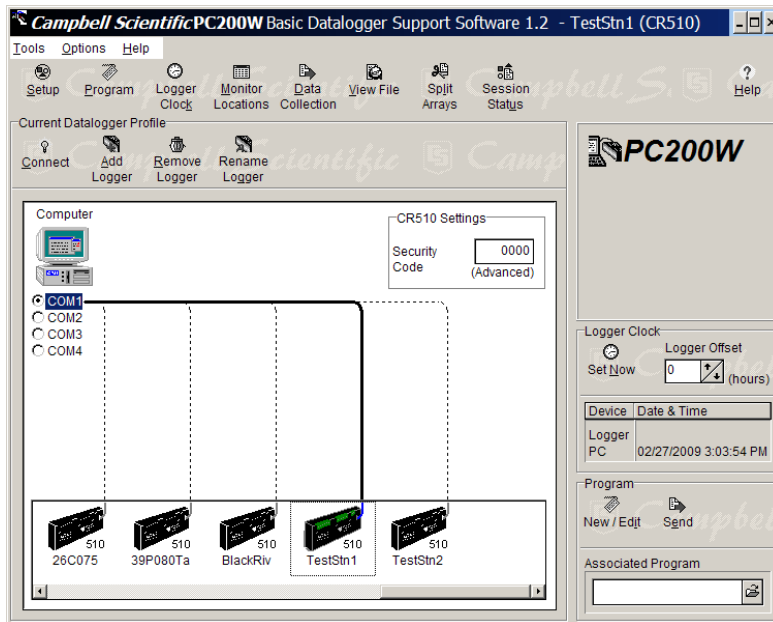

Figure 19: PC200W Setup screen.
- 6.4.2.3 Open PC200W on the laptop. The program should open to the Setup page, showing an array of datalogger icons labeled with station ID’s for some of the sites in the FMU network. A scroll bar at the bottom of the window allows you to view all of the stations that have been set up on this laptop. See Figure 19.